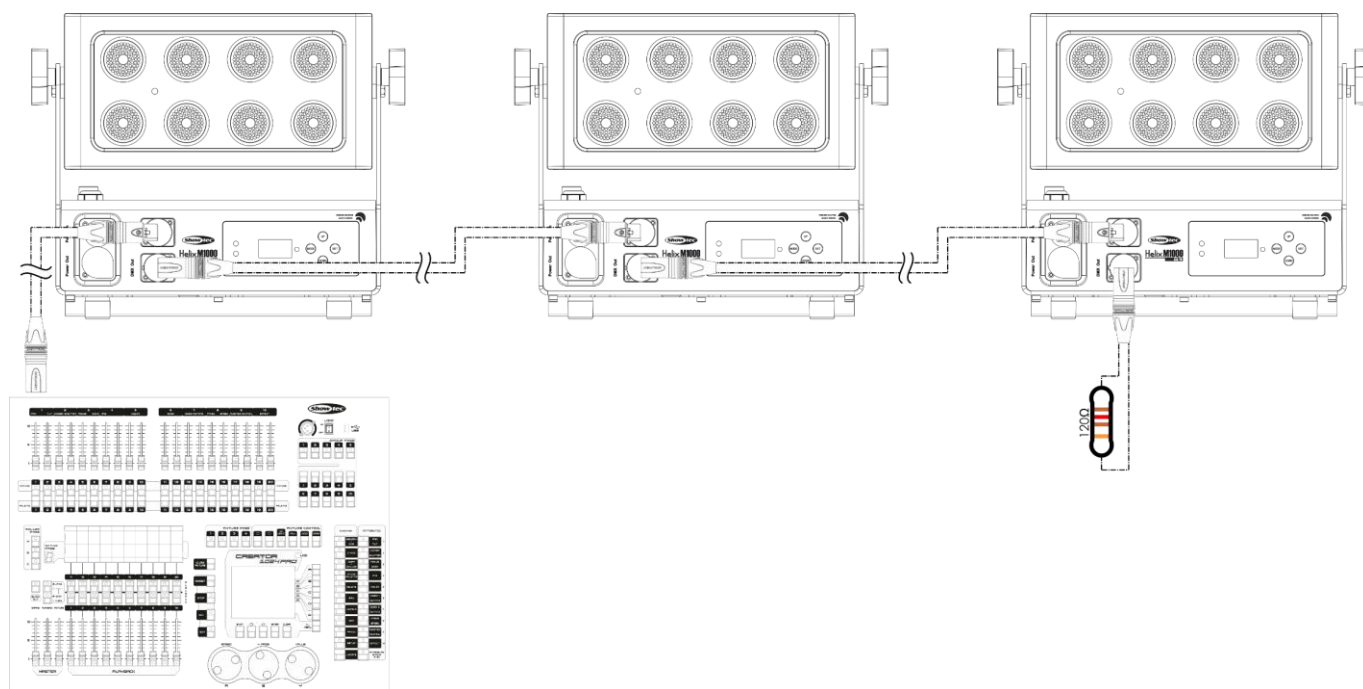

Fig. 11
- 05) Link the units as shown in Fig. 11. Connect a DMX signal cable from the first unit's DMX "out" socket to the second unit's "in" socket. Repeat this process to link the second and third units.
- 06) Supply electric power: Plug electric mains power cords into each unit's True1 pro socket, then plug the other end of the mains power cord into proper electric power supply sockets, starting with the first unit. **Press the power switches ON/OFF (08) on all Helix devices, for the light output to be visible.** Do not supply power before the whole system is set up and connected properly.